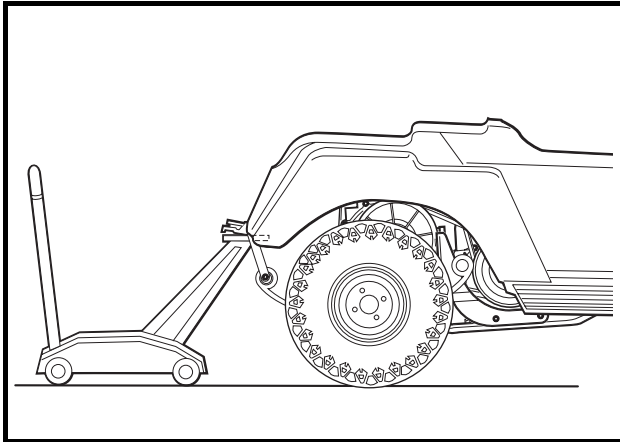

Figure 18-24 Raise Vehicle
10. Continue raising vehicle until frame or trailer hitch is higher than the top of the unitized transmission (enough to allow transaxle and engine to be rolled under and out of vehicle) (**Figure 18-24, Page 18-11**).